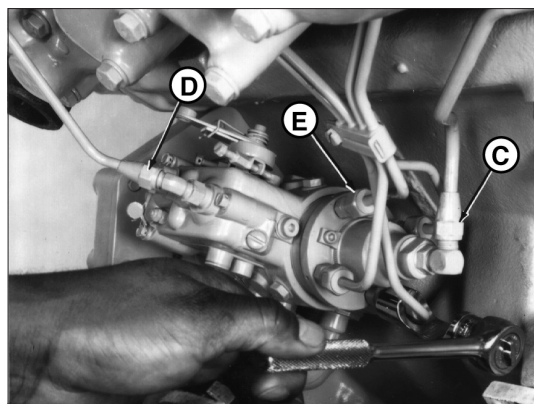

Figure 22 Reproduced by permission of Deere & Company, c.2004. Deere & Company, All rights reserved.
11. Connect injection pump pressure lines (Figure 22-E). Beginning with outlet connection to #1 cylinder (Figure 24-B) and continue around the pump head in counter-clockwise direction, attaching lines in same order as engine firing (1-5-3-6-2-4 on 6-cylinder engines and 1-3-4-2 on 4-cylinder engines).
13. Connect fuel supply line (Figure 22-C) and fuel return line (Figure 22-D).